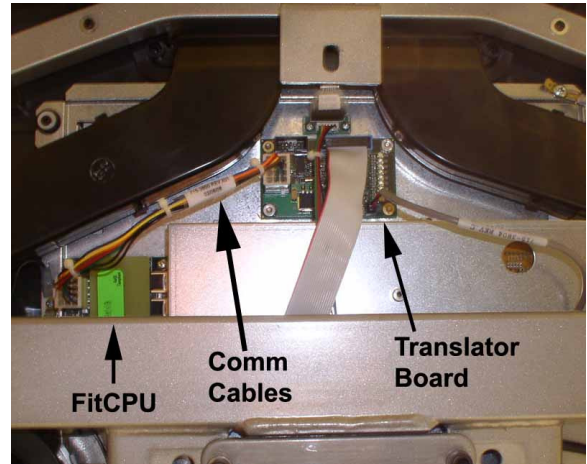

Fig. 4
- a. If all LED's are off, ensure the comm. cable (715-3800) between the Translator Board and FitCPU is firmly connected (Fig. 4). If FitCPU LED's do not light up, replace comm. cable (715-3800).